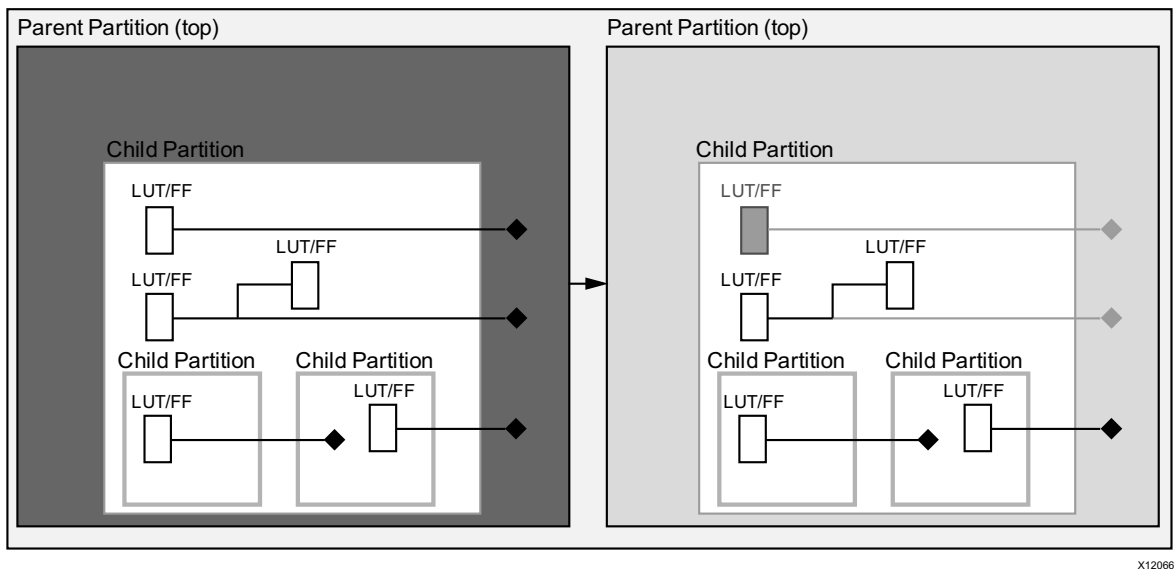

Figure 2-2: Unused Outputs
- Figure 2-2, Unused Outputs
In Figure 2-2, **Unused Outputs**, **BoundaryOpt** disconnects unused partition outputs allowing optimization to occur. This removes the port from the partition interface.